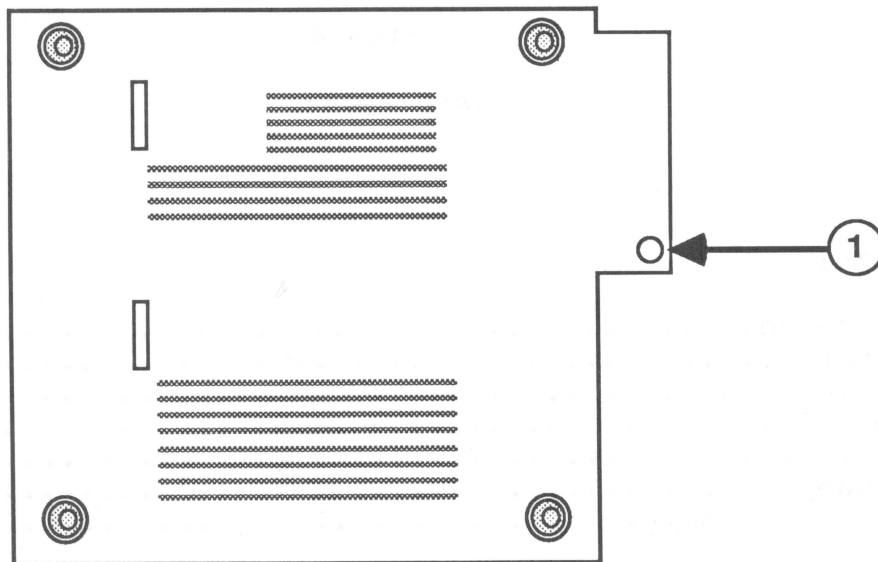

FIGURE 1
2. Remove the one torx screw shown in Figure 1, #1.
2. Replace the screw shown in Figure 1, #1.